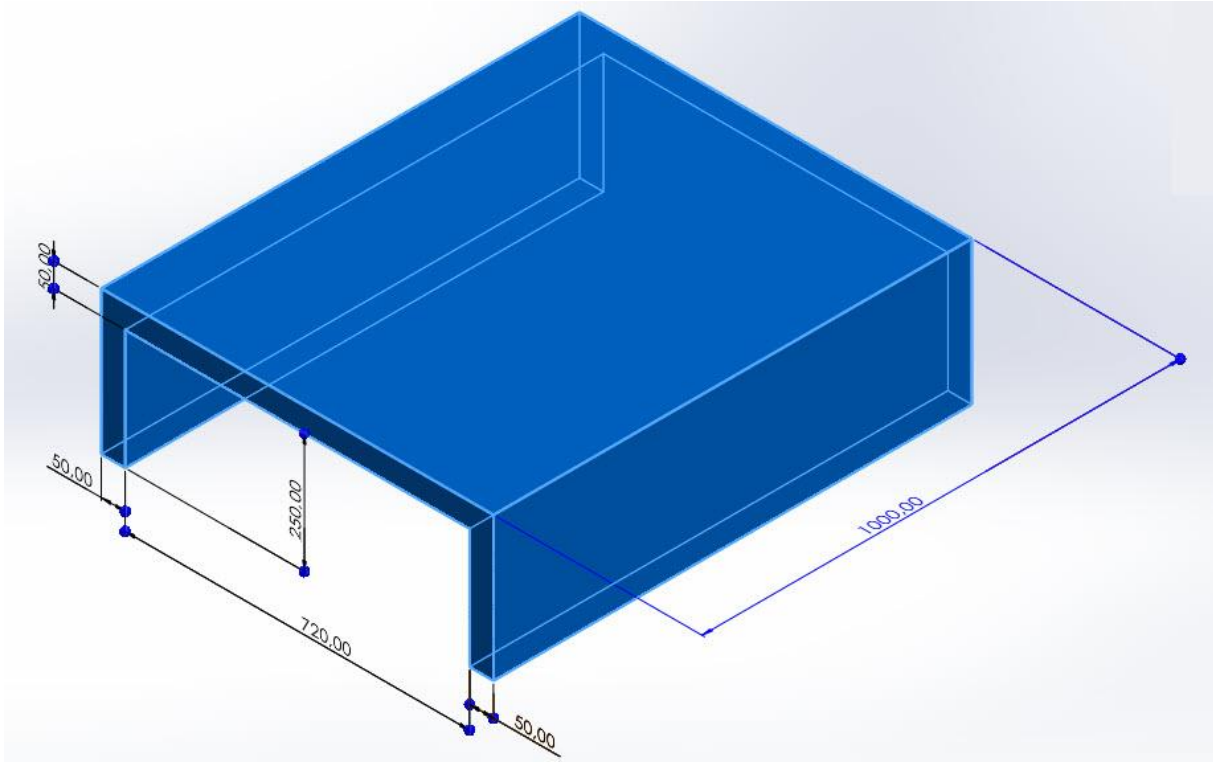

Figure 9. Transparent Tunnel dimensions and 3D view
- For both robots, there is a tunnel made of transparent mica material on the runway, illuminated with a blue LED strip. Tunnel dimensions are shown at figure 9.